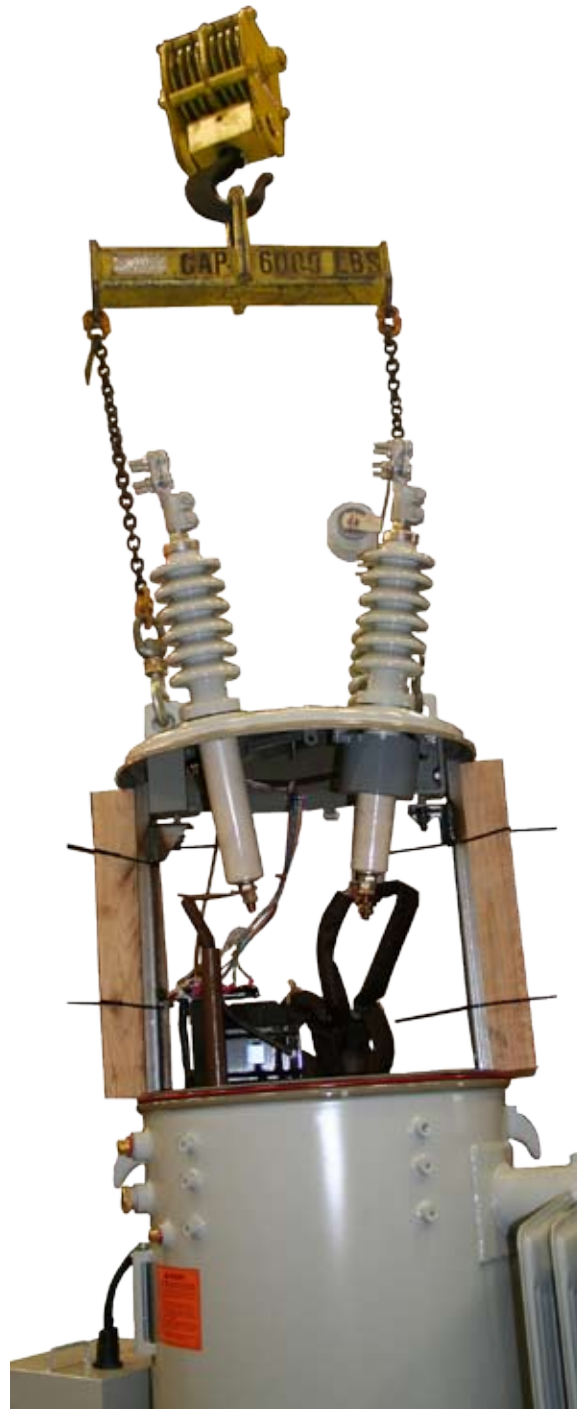

Figure 21.
6. Attach sling or hooks with a spreader bar to the lifting eyes and raise the cover, with the attached core-and-coil assembly, until the top of the coil is approximately one inch under oil (see Figure 21). As a safety precaution, blocking between the cover and the tank lip should be used until inspection of the tap-changer or other maintenance is complete. A service cable assembly is available for operating an untanked regulator from the mounted control cabinet if the connection cable is not long enough. Contact customer service for availability.
Retank the regulator as follows. Refer to Figure 21.